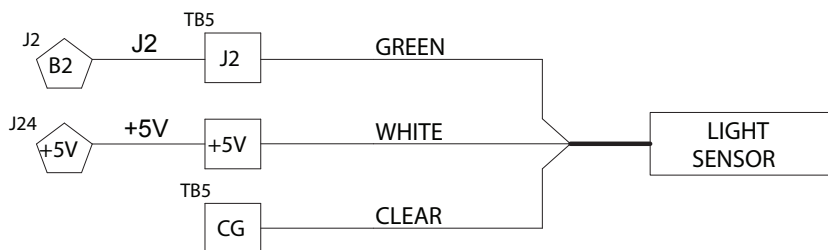

Figure 19
- d. Wire the light sensor to terminal blocks J2, +5V, and CG (Figure 19) as indicated in schematic **228124**.